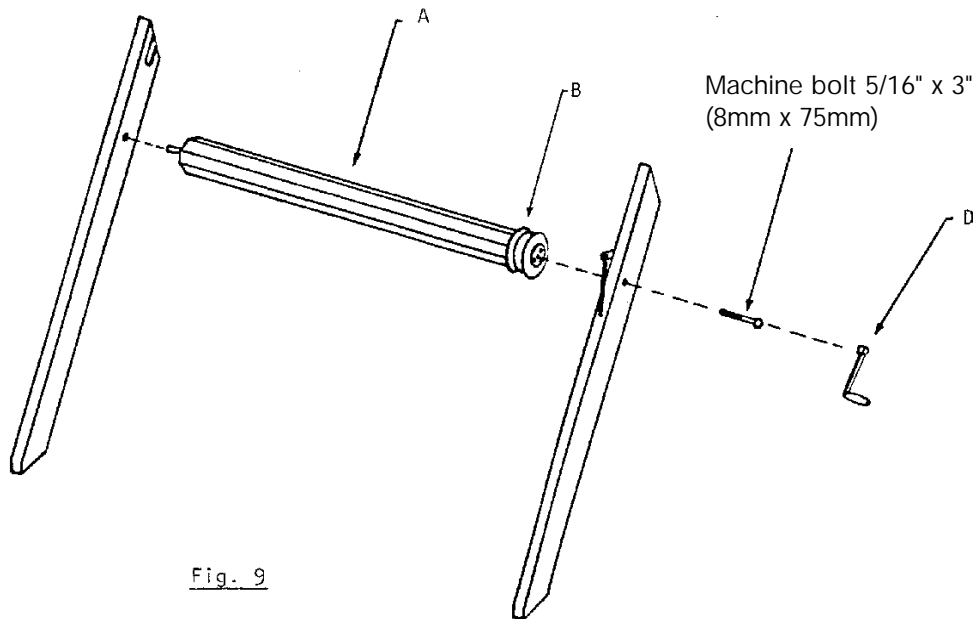
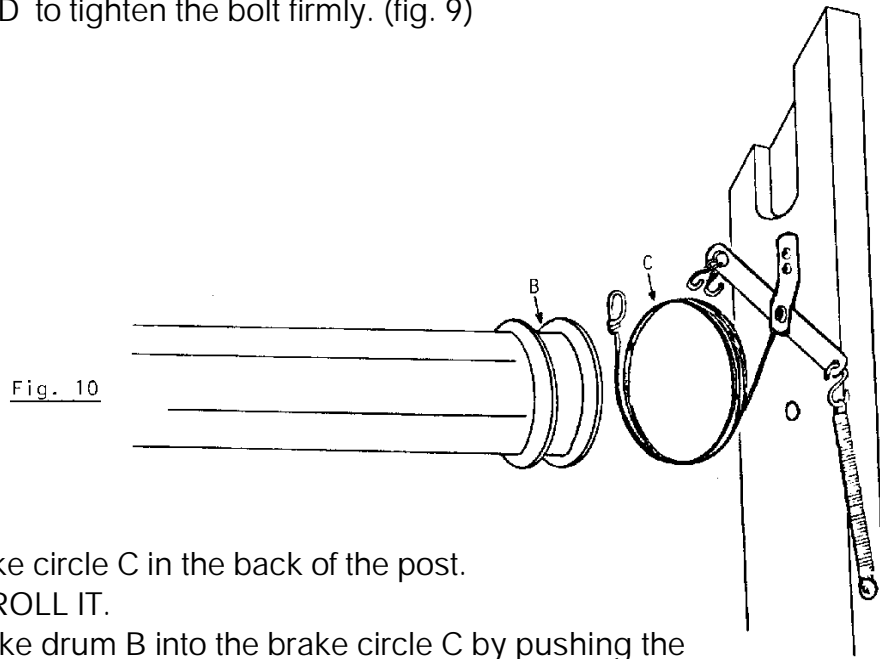

Fig. 9
Fig. 10
Install the warp beam A between the two (2) front posts (fig. 9), taking care to insert the brake drum B into the flat metal brake circle (fig. 10)
Use the crank D to tighten the bolt firmly. (fig. 9)